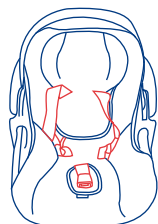

Fig. 37-1
c) Place the Safety Seat on a firm and level surface. Move the carry handle to the non rocking position. Loosen the Harness Straps by pulling on the straps while pushing on the Harness Adjuster Button located below the pad just in front of the buckle. Unfasten the Harness Chest Clip. Unbuckle the Harness Straps and drape the Harness Straps over the Seat back or to the sides of the Safety Seat. Please see figure 37-1.